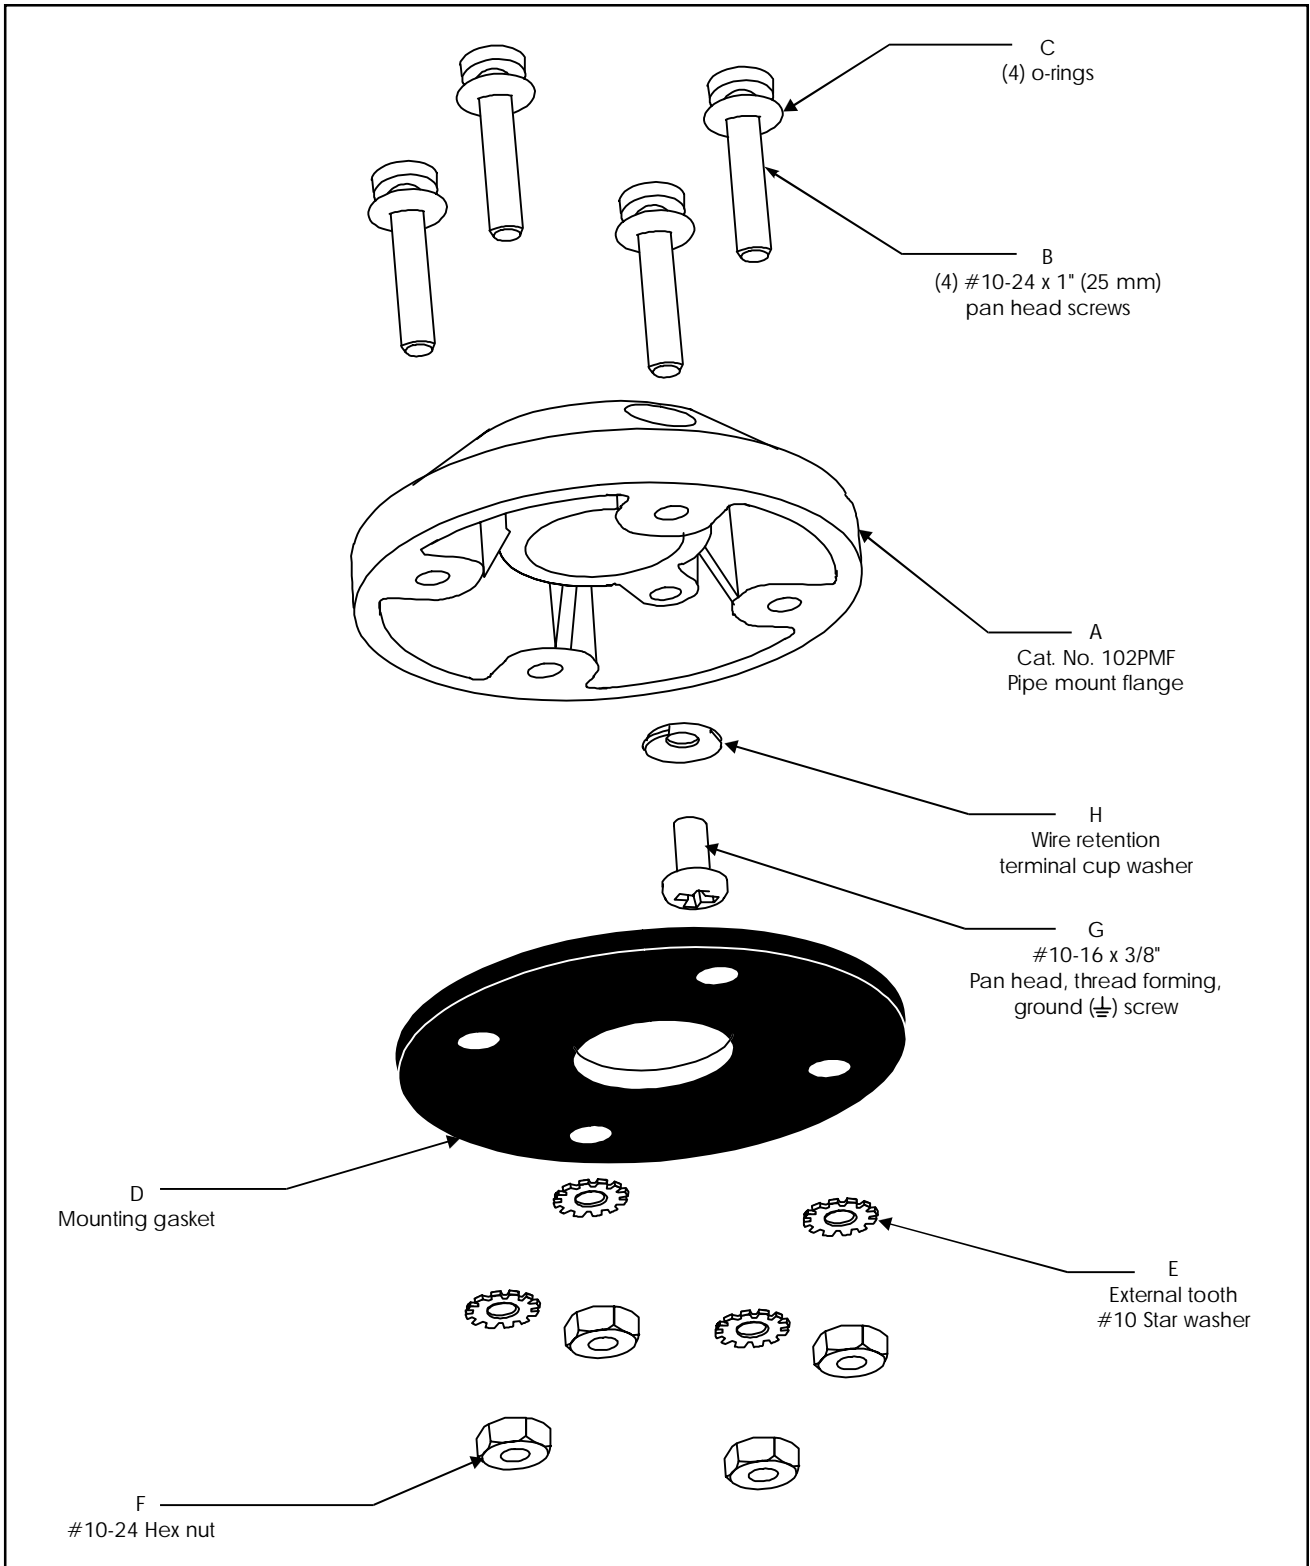

Figure 1. Mounting Kit Assembly
1. Panel mount the 102PMF pipe mount flange (A) as follows.
- a. Using the supplied gasket (D) as a guide, mark the four mounting holes and the center clearance hole on an appropriate surface.
- d. Ground the flange by pulling the ground wire through the mounting surface clearance hole and center hole of the gasket. Connect earth ground to the bottom of the base mount flange using the ground screw (G) and wire retention terminal cup washer (H).
- f. Align the mounting gasket (D) and flange (A) on the panel. Secure using (4) #10-24 x 1" (25 mm) pan head screws (B), (4) external tooth #10 star washers (E) and (4) #10-24 hex nuts (F). See Figure 1.